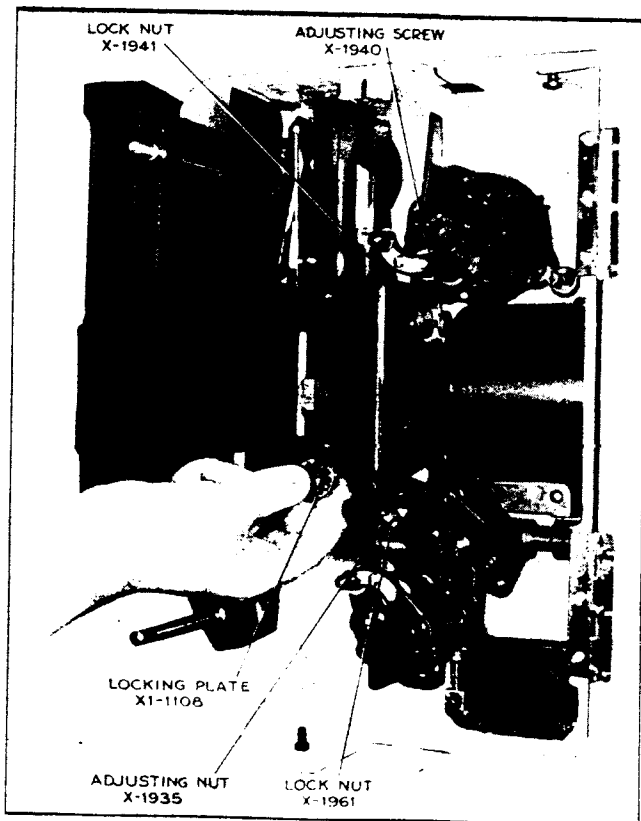

Figure 3—Removing Intermittent Sprocket
4. Place the middle and forefinger of the right hand one on either side of the sprocket behind the outer flange and the thumb on the head of the screw. By pulling on the sprocket with the fingers and pushing inward on the head of the screw with the thumb, the sprocket will loosen from the shaft and come out as far as the screw head. See Figure 3.